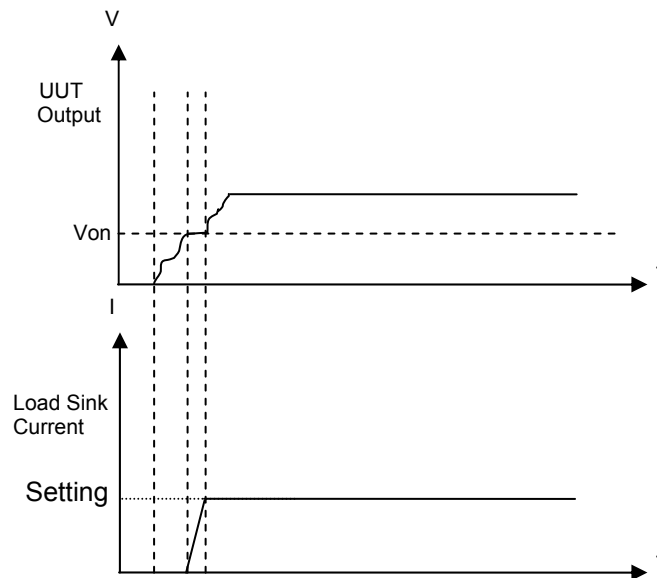

Figure 3-19 When Von Point is set to 0V with Protection
- (2) When it is “LOAD ON”, VON POINT is set to 0V and Von Protection is enabled, the DC Load starts loading when the external voltage exceeds the protection voltage. No overshoot will occur under this condition as Figure 3-19 shows.